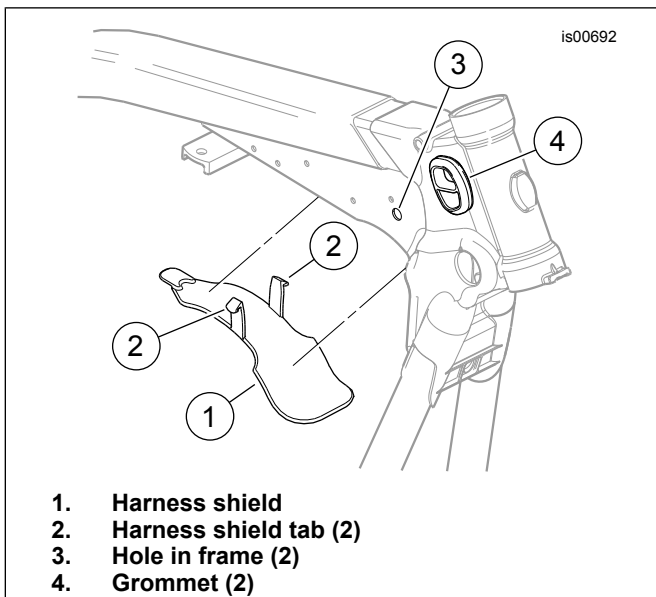

Figure 1. Harness Shield Removal
5. See Figure 1. Disengage the tabs (2) from the holes (3) on each side of the frame and remove the shield (1).
15. See Figure 1. Feed the assembled right side turn signal connector, from the outside, through the grommet (4) in the right side of the frame, behind the steering head. Feed the assembled left side connector through the grommet in the left side of the frame.